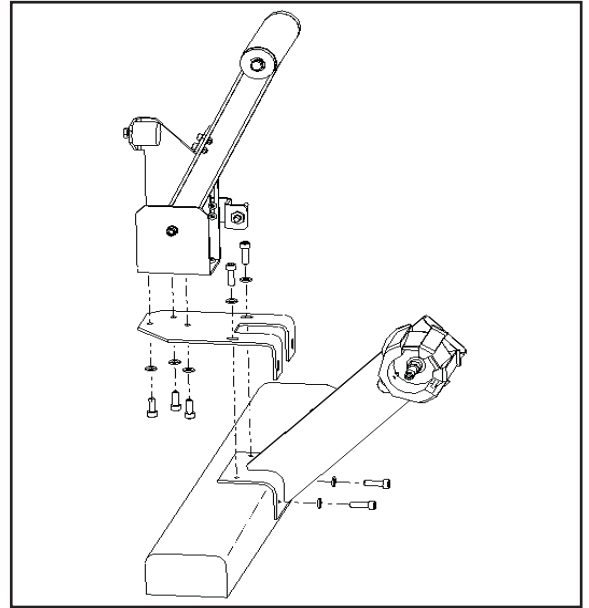

Figure 2-12
- 1) Fasten the upper dancer arm assembly to the appropriate bracket (**See Figures 2-12**) using the M6 screws and washers.
- 4) Place the dancer arm assembly over the tape drum bracket as shown in **Figures 2-12** and attach the entire assembly using the longer (4) M6 screws and washers supplied in this kit.